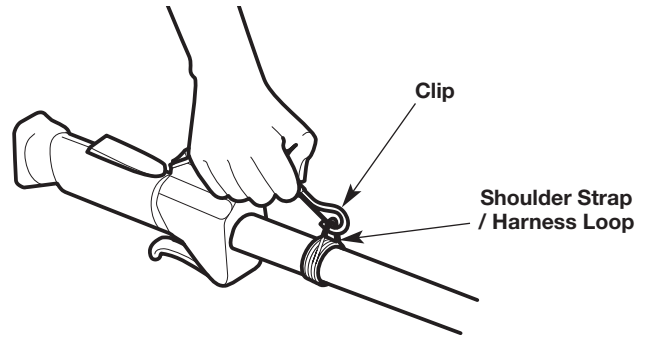

Fig. 5
5. Snap the clip onto the shoulder strap / harness loop (Fig. 5).